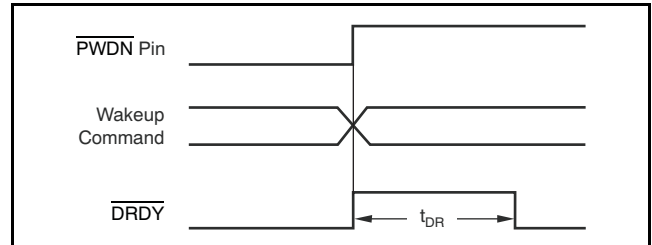

Figure 41.  $\overline{\text{PWDN}}$  Pin and Wake-Up Command Timing (Table 13 shows  $t_{\text{DR}}$ )
In power-down, note that the device outputs remain active and the device inputs must not float. When the Standby command is sent, the SPI port and the configuration registers are kept active. Figure 41 and Table 13 show the timing.
(1) See Figure 41 and Table 13 for time to new data.